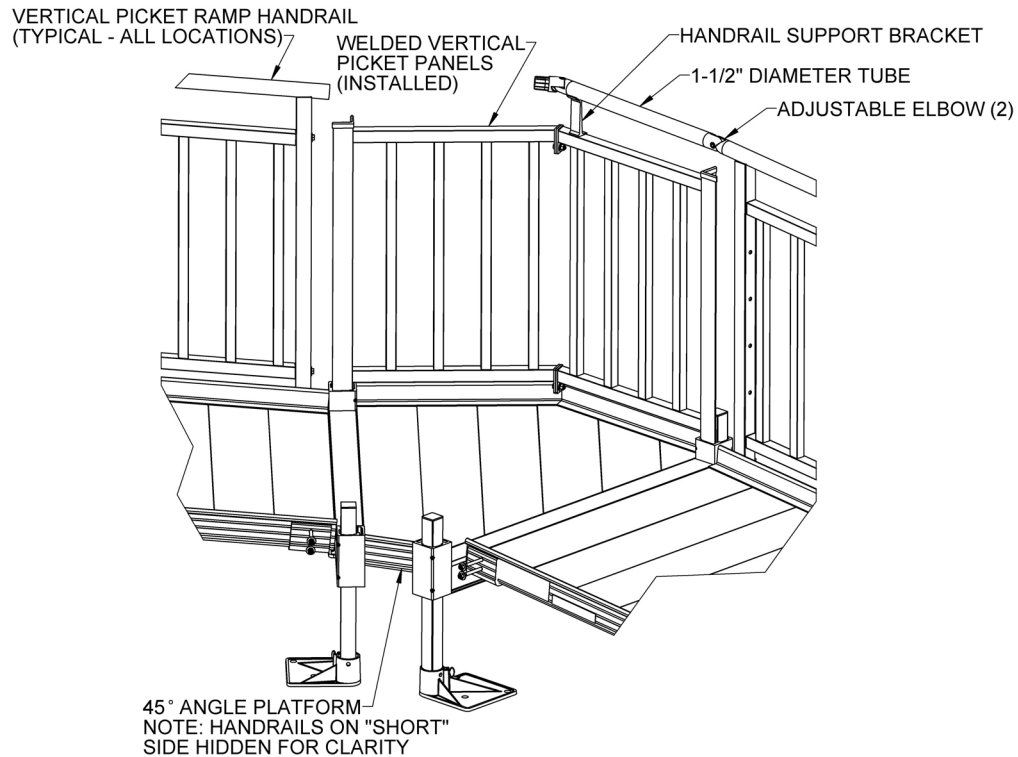

FIG. 4.21
- 4.6.21. Install an adjustable elbow in the ramp handrail closest to the right-hand Vertical Picket panel and a 1-1/2" diameter handrail tube to this elbow. Set the Handrail Support Bracket so it is centered over the picket shown and set the 1-1/2" diameter handrail tube in the saddle of the bracket (but do not attach), then trim the handrail tube so that a second adjustable elbow will align (approximately) with the split between the Vertical Picket panels (FIG. 4.21). The procedure for installing the 1-1/2" diameter handrail tubes and adjustable elbows is the same as installing the closure top rail.